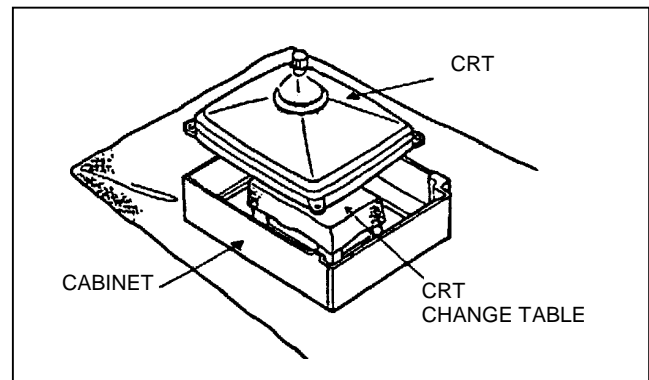

Fig. 5
4. After 4 screws have been removed, put the cabinet slowly on cloth (At this time, be carefully so as not to damage the front surface of the cabinet) shown in Fig.5.